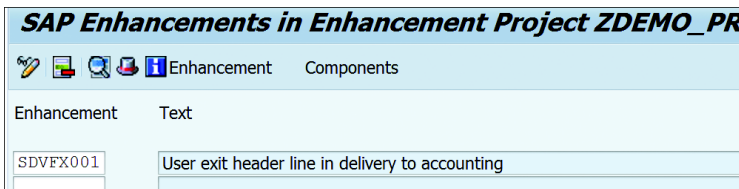

Figure 20.20 Assigning Enhancement to Project
4. On the next screen, enter the name of the enhancement under the **ENHANCEMENT** column and press , as shown in Figure 20.20.